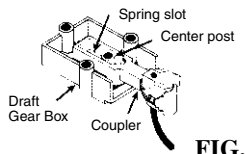

FIG. 3
2. Place coupler into Draft Gear Box, as shown in Fig. 3. Add a little more #231 Greas-em and "toggle" coupler back and forth in box to burnish further.